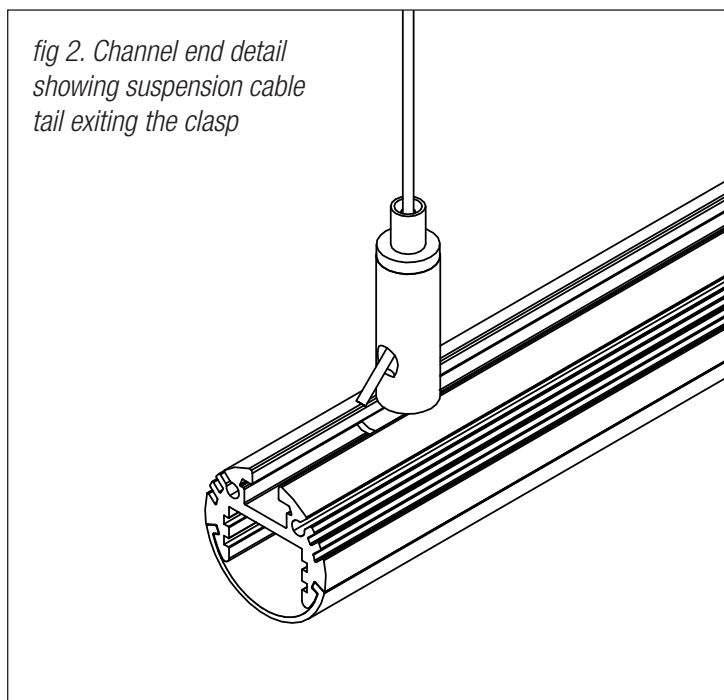

fig 1. Suspension cable assembly
3) Assemble extrusions to suspensions as per the exploded diagram *fig 1*.